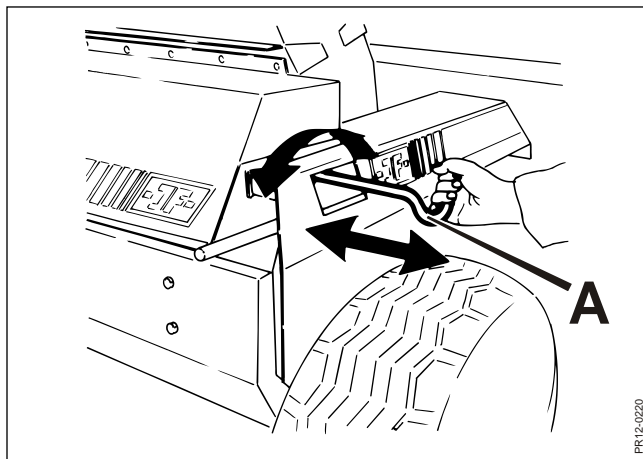

Fig. 4-29
- Fig. 4-29** 7. Feed carefully by turning the handle **A** until the stone touches the blades. Move the stone in a slow, sliding movement across the whole rotor and back again. Feed some more and repeat the movement across the whole width of the rotor so that the blades in the whole width of the rotor are sharpened.